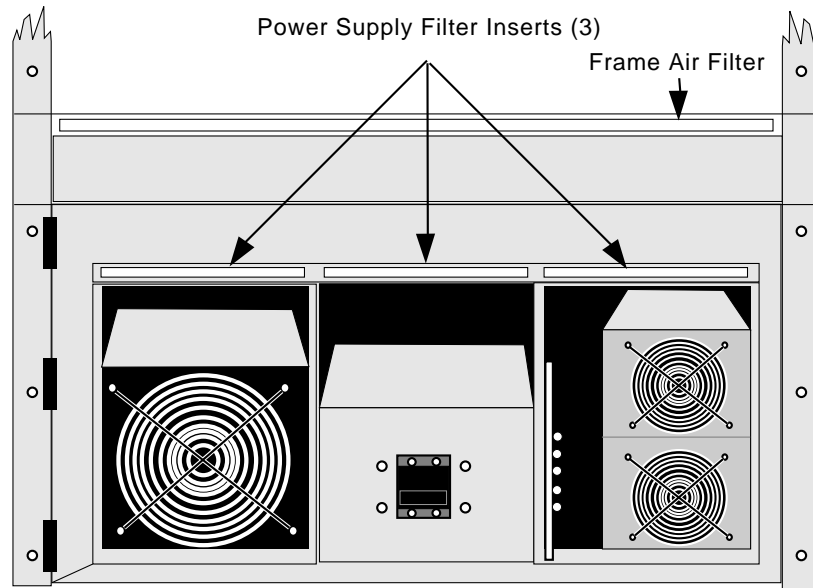

Figure 4-13. Frame Power Supply Panel Release Screws
The frame power supply has three small air filters located in the top of the chassis. See Figure 4-13. These filters should be inspected regularly and cleaned as necessary. Clogged filters can cause overheating and failure of the power supplies. To replace the frame power supply air filters proceed as follows:
1. Release the two quarter turn screws on the front panel and open the panel. See Figure 4-13.